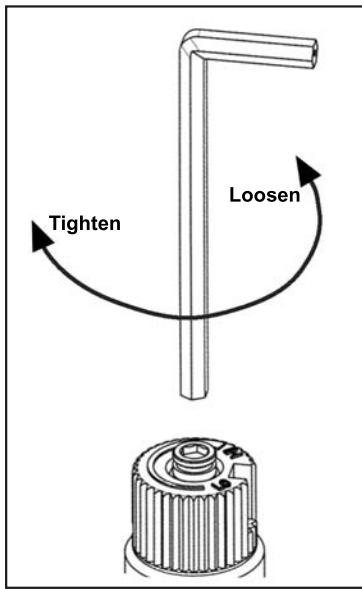

Figure 10: Removing valve screw.
b) Insert a  $5/32''$  or 4 mm Allen wrench into the hexagonal key-way of the screw (see Figure 10), rotate it counter-clockwise until it is free and extract it.
e) Using the Allen wrench as shown in Figure 10, rotate the screw clockwise until a torque of 9 inch lbs. **WARNING!** Do not over tighten the screw. It is recommended that you grip the wrench by the short side.